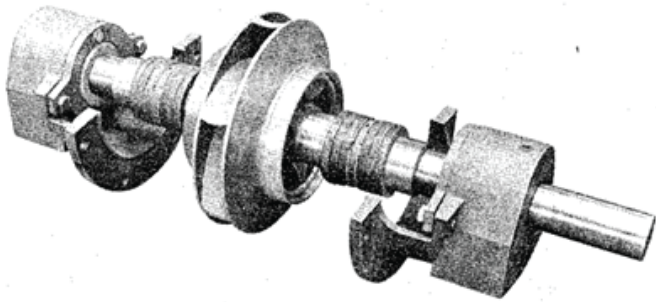

Fig. 6 — Complete Rotating Element, Consisting of Impeller, Shaft, Seals and Bearings. (Pump with Packing)
- c. Pull the coupling half and key (3-911-2) off the shaft (3-007-0).
**NOTE:** A spare rotating element can be installed at this point. (See Figure 6)
11. Press the heated bearing (3-026-2) on the shaft against the shaft shoulder or snap ring. Install the bearing retaining ring on the outboard end. (See Figure 6).
15. Replace the pump coupling half and key (3-911-2).